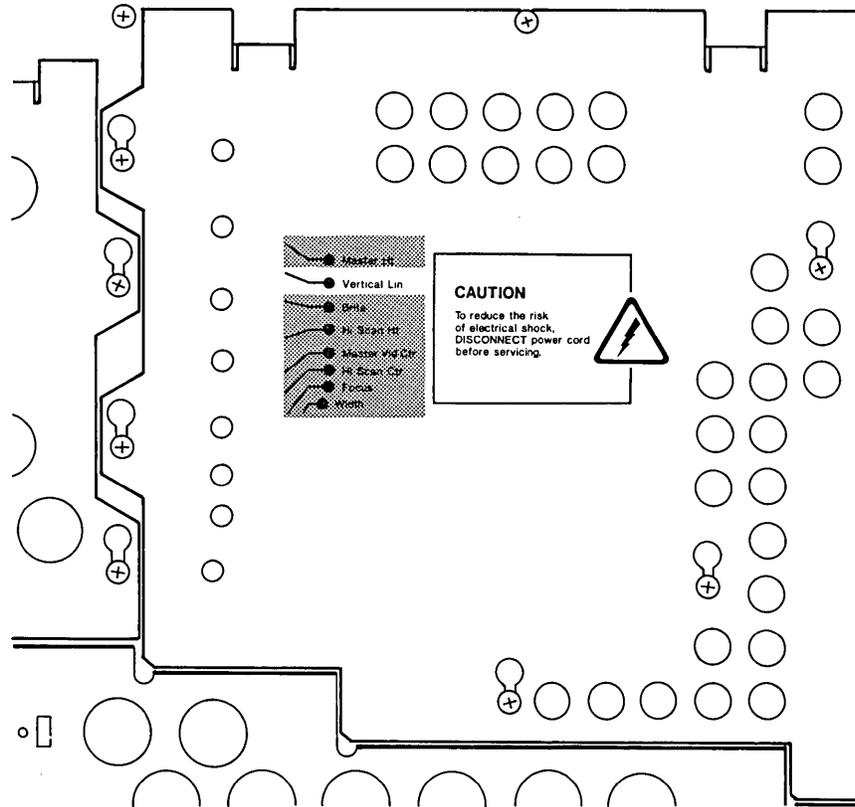

Figure 7-7. VDU Assembly Access Plate - VERTICAL LIN Control.
Step 11 - Once again, verify that the vertical linearity is properly adjusted. If any adjustment is required, use the label on the VDU Assembly access plate as a guide (see Figure 7-7) to locate and adjust the VERTICAL LIN control until the vertical linearity is properly adjusted.